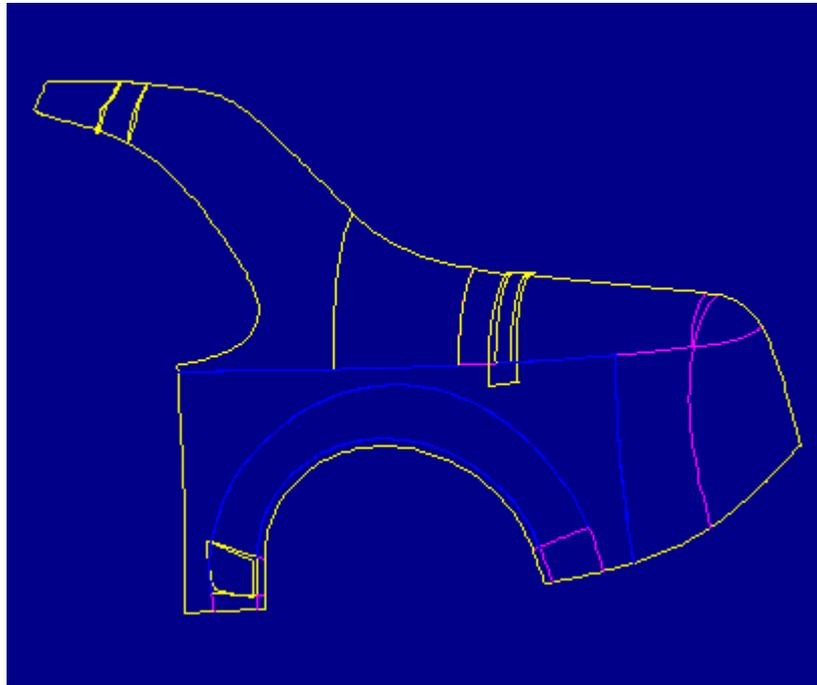

Figure 4
2. In the PART menu select **Feature, Redefine**, and the import feature. In the REDEF IMPT menu select **Heal Geometry, Manual, Zip Gaps, Auto Select** to select the edge chains highlighted in blue in Figure 4.